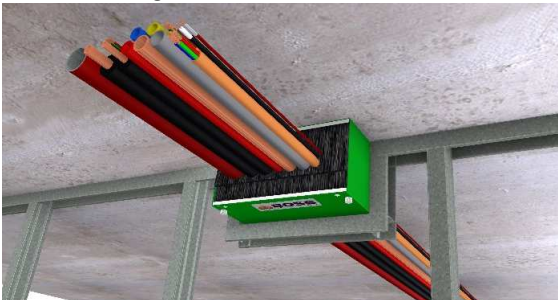

Fig. 3 – Install wall framing
6. Install wall framing (studs and noggins) around the FyreBox. (Fig. 3) The FyreBox does not need to be attached to the wall framing.